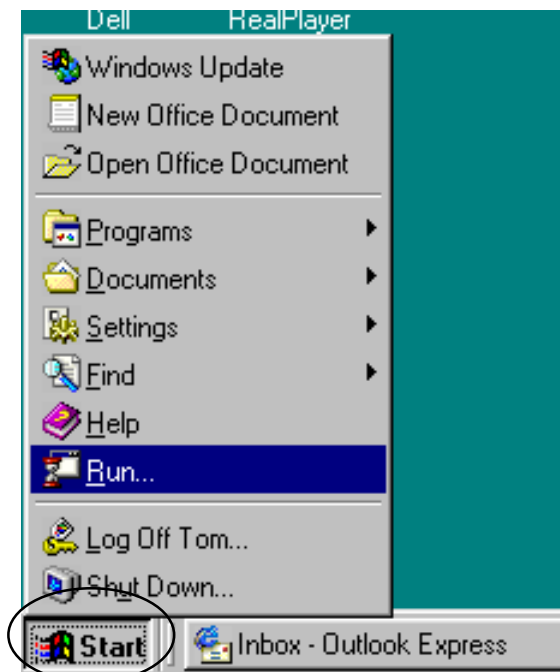

Figure 1
2. At the Windows desktop screen, click on **START** then on **RUN**. See Figure 1.